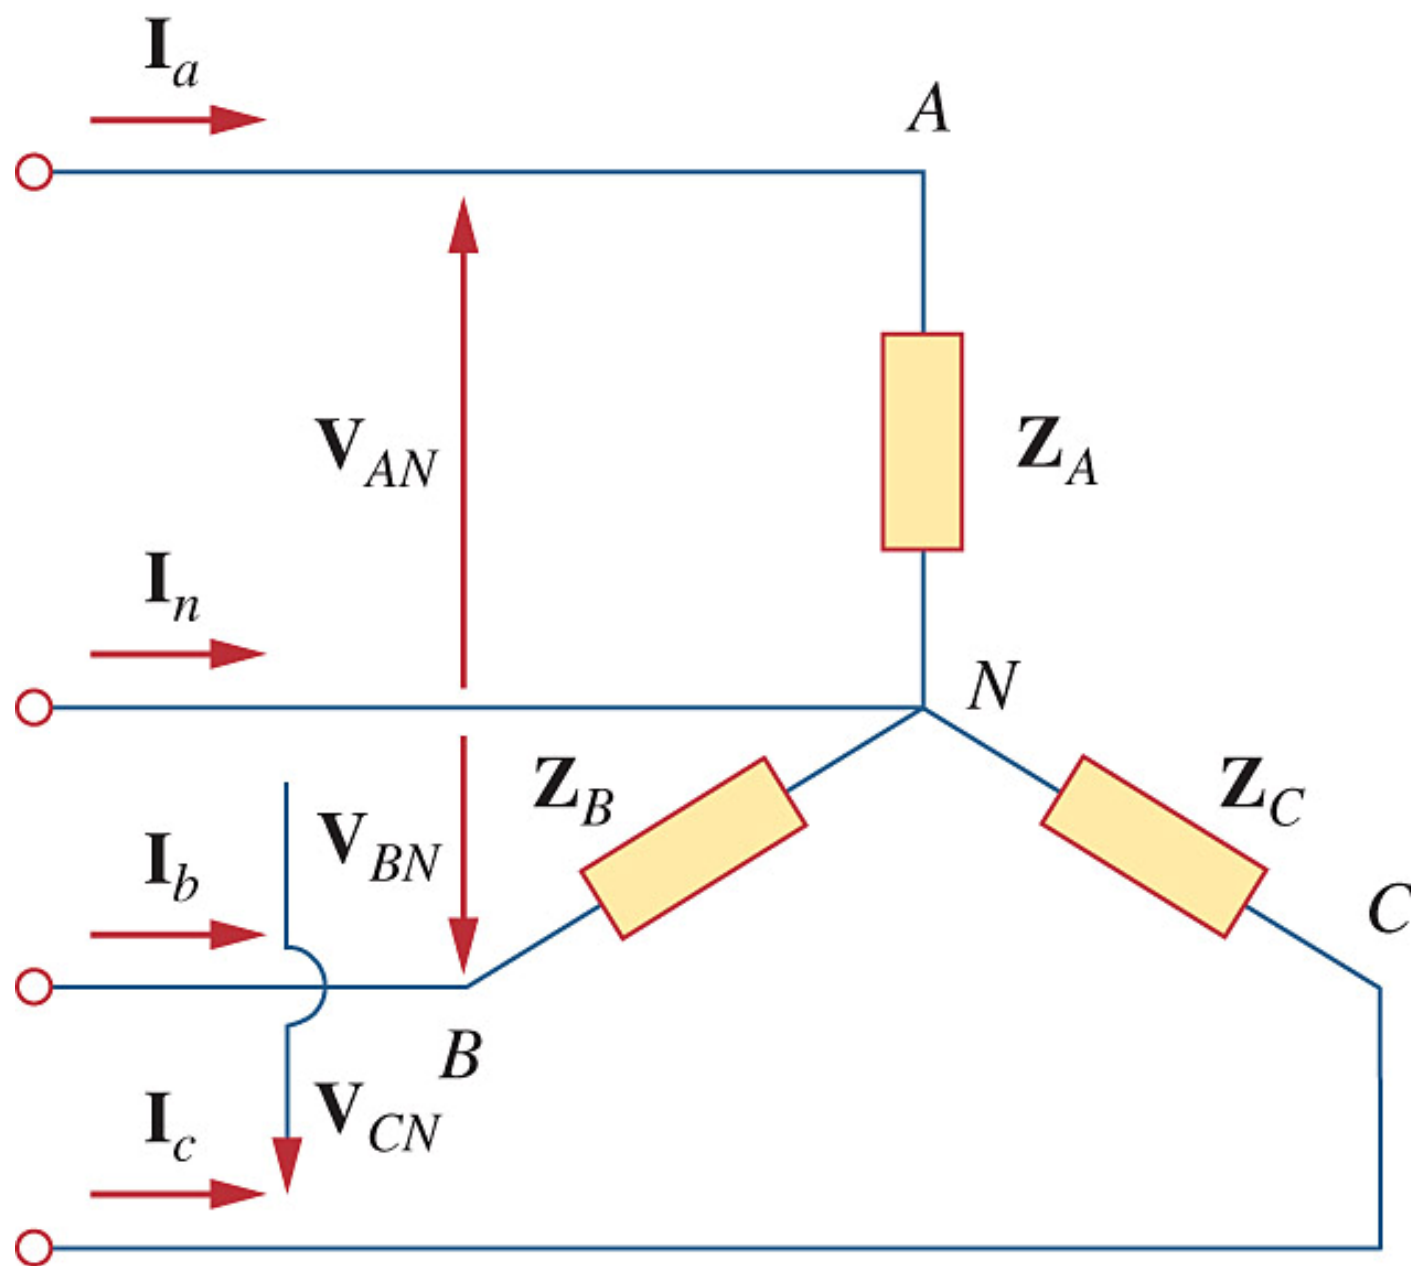

Figure 12.23 Unbalanced three-phase Y-connected load.
**Example 12.9** The unbalanced Y-load of Fig. 12.23 has balanced voltages of 100 V and the *acb* sequence. Calculate the line currents and the neutral current. Take  $Z_A = 15 \Omega$ ,  $Z_B = 10 + j5 \Omega$ ,  $Z_C = 6 - j8 \Omega$ .